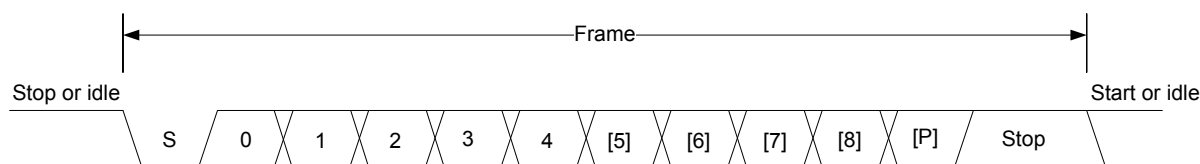

Figure 16.2. USART Asynchronous Frame Format
The frame format used in asynchronous mode consists of a set of data bits in addition to bits for synchronization and optionally a parity bit for error checking. A frame starts with one start-bit (S), where the line is driven low for one bit-period. This signals the start of a frame, and is used for synchronization. Following the start bit are 4 to 16 data bits and an optional parity bit. Finally, a number of stop-bits, where the line is driven high, end the frame. An example frame is shown in Figure 16.2 USART Asynchronous Frame Format on page 451.